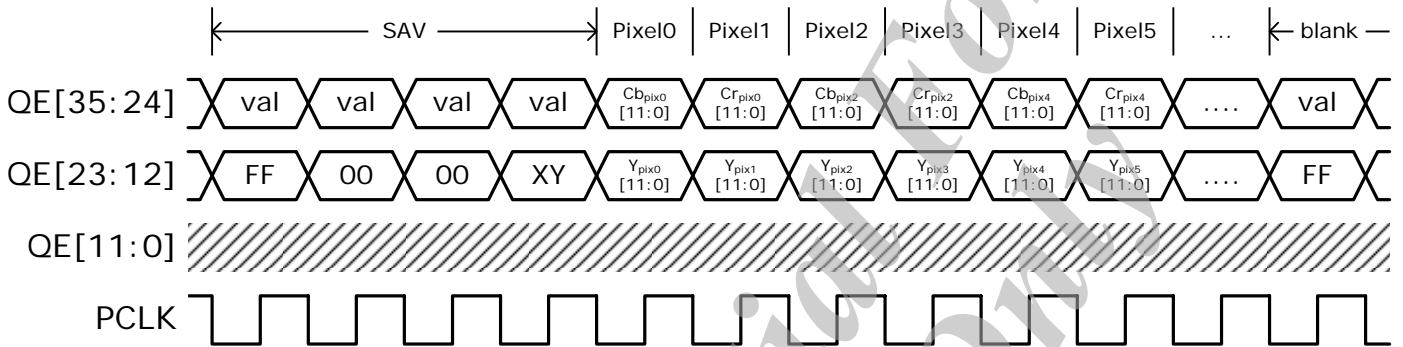
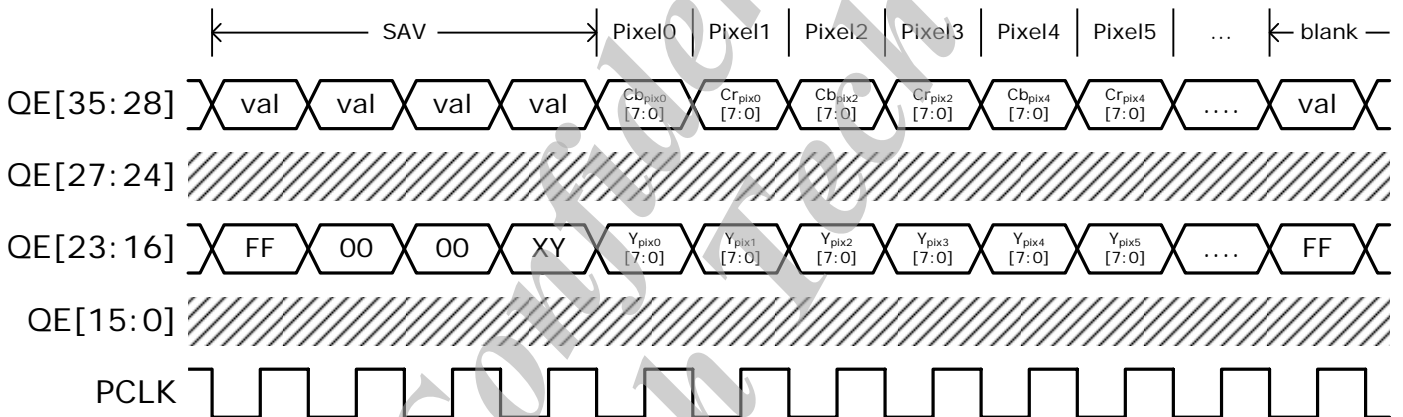

Figure 8. 24-bit YCbCr 4:2:2 with embedded syncs
Figure 9. 16-bit YCbCr 4:2:2 with embedded syncs
i.e. embedded. Bus width could be 16-bit, 20-bit or 24-bit. Figure 8 gives a timing example of 24-bit YCbCr 4:2:2 and Figure 9 that of 16-bit. Note that while "embedded syncs" implies that neither DE nor H/VSYNC are required, the CAT6023 optionally output these signals via proper register setting to ease the design for some backend processors.